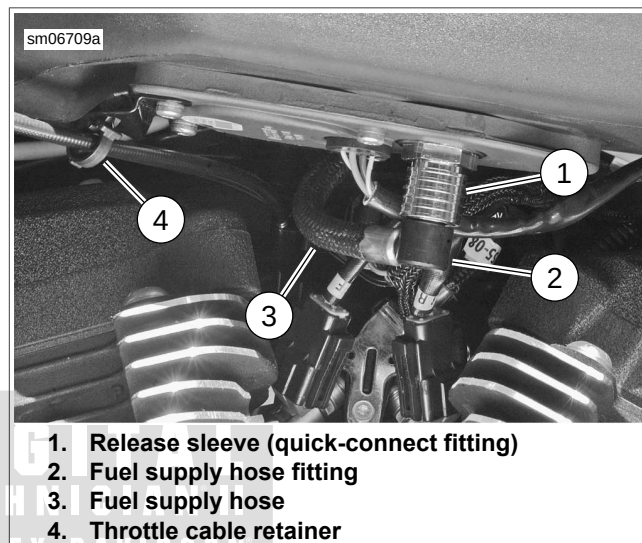

Figure 4-13. Fuel Tank Quick-Connect Fitting
2. See Figure 4-13. Push up on release sleeve (1) on fuel pump quick-connect fitting and pull down on fuel supply hose fitting (2) to disconnect fuel supply hose (3). Immediately clean up any fuel spills.
4. See Figure 4-13. Remove retainer (4) securing throttle cables to plate on bottom of fuel tank.
10. Remove screw with washer (4) from rear of fuel tank. Remove protective plastic cap (not shown) from threaded end of screw (6). Remove screw, washers and locknut from the front of the fuel tank.
11. See Figure 4-13. Remove throttle cable retainer (4) from fuel tank.
- a. Locate the metal bushing (4) inside the rear lower rubber grommet (3) of fuel tank.
- b. Install screw (1), washer (2) and upper grommet (3).
- c. Thread into clip nut (5). Tighten to 15-20 ft-lbs (20.3-27.1 Nm).
- d. Tighten front screw (6) and locknut (7) to 15-20 ft-lbs (20.3-27.1 Nm).
9. See Figure 4-13. Secure throttle cables to bottom of fuel tank using a **new** loop retainer.